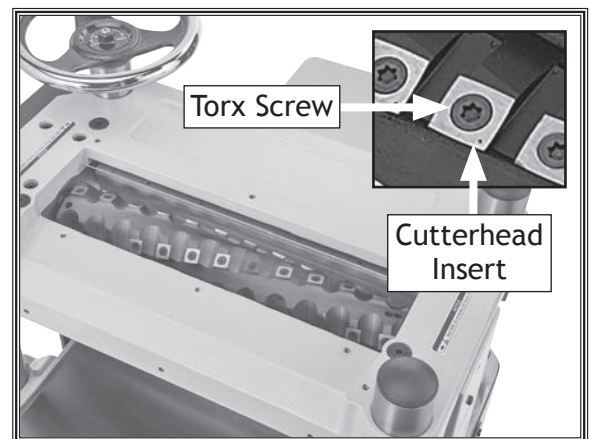

Figure 24. W1874 cutterhead inserts and Torx screws.
4. Remove any sawdust or debris from head of insert, Torx screw, and surrounding area (see **Figure 24**).